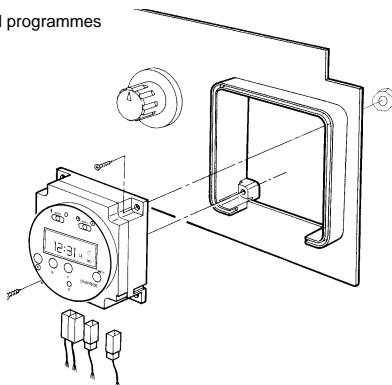

Fig. 43
**Reset is only possible with switch (A) in set Clock position!**
- Remove the time clock from the control panel (fig. 43).
- Re-assemble in reverse order (refer to fig. 43 for replacement of the time clock).